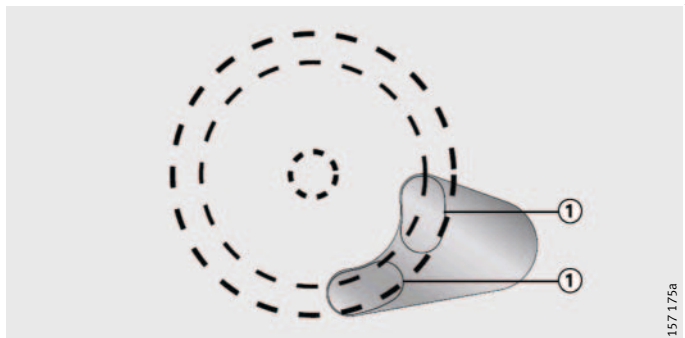

Figure 4
- Each of the magnetic areas must be fully in contact, *Figure 4*.
- ① Adjustable section of the machine
- ② Non-movable section of the machine